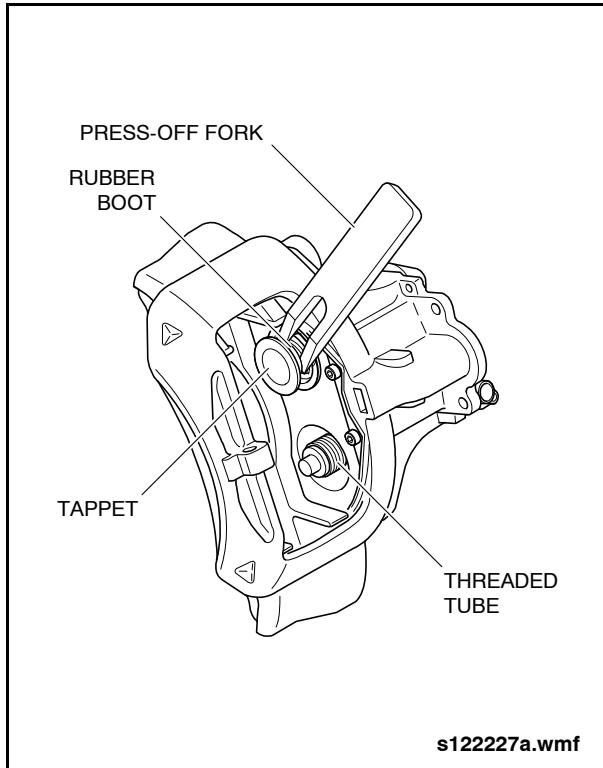

Fig. 2-135: Removing Tappets
3. Use a sharp knife to cut the rubber boot on the tappet. Insert the press-off fork tool (Item 81 from special tools list) between the tappet and the end of the threaded tube with the flat side of the forks against the threaded tube. See "Fig. 2-135: Removing Tappets" on page 116.